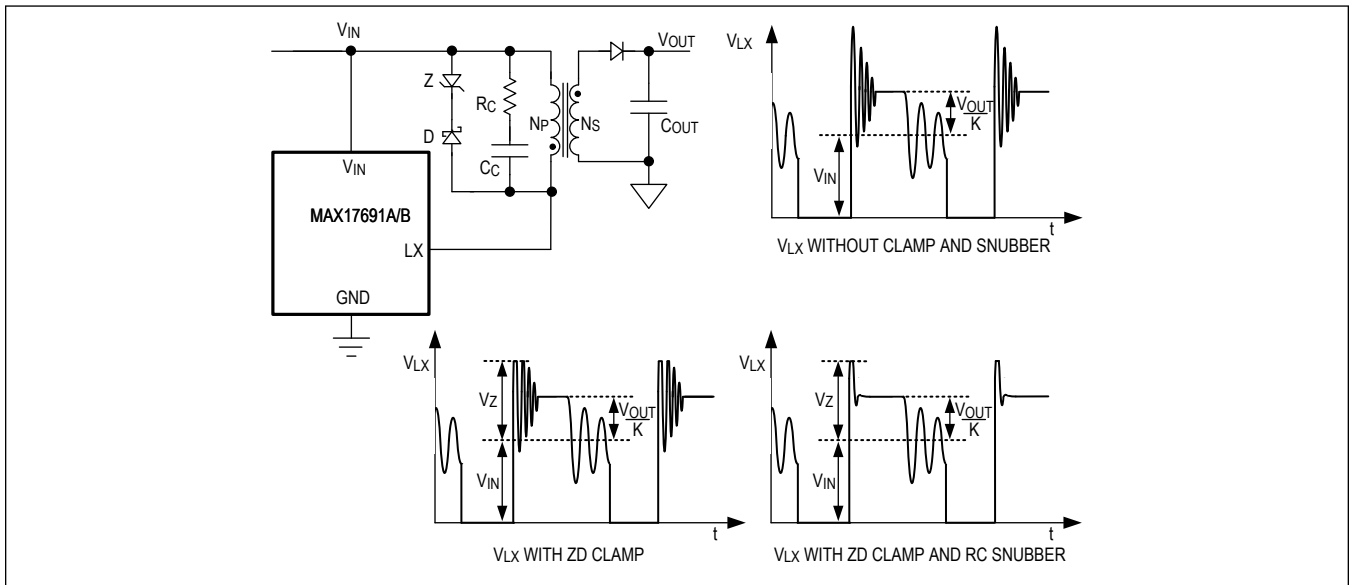

Figure 9. Voltage Clamp Circuit
A simple Zener diode (ZD) clamp can be used as a voltage clamp circuit. Figure 9 shows the operating waveform of the Zener diode clamp.